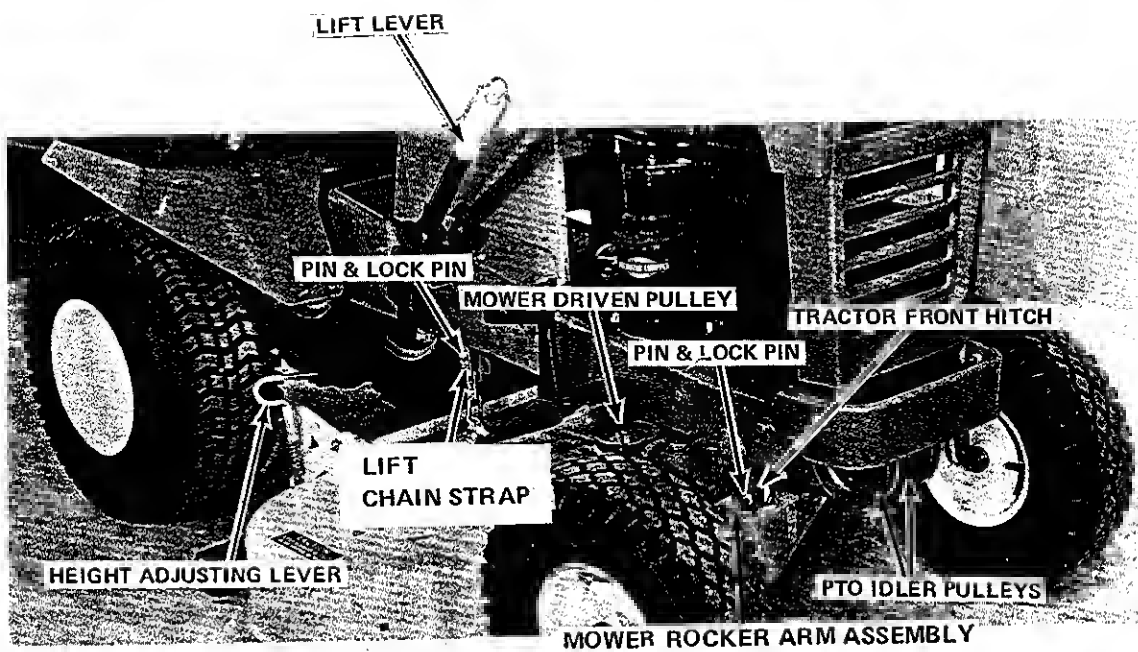
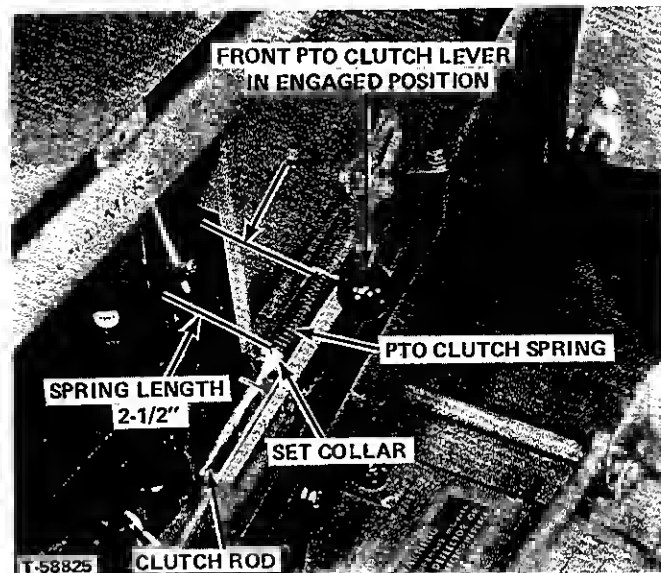
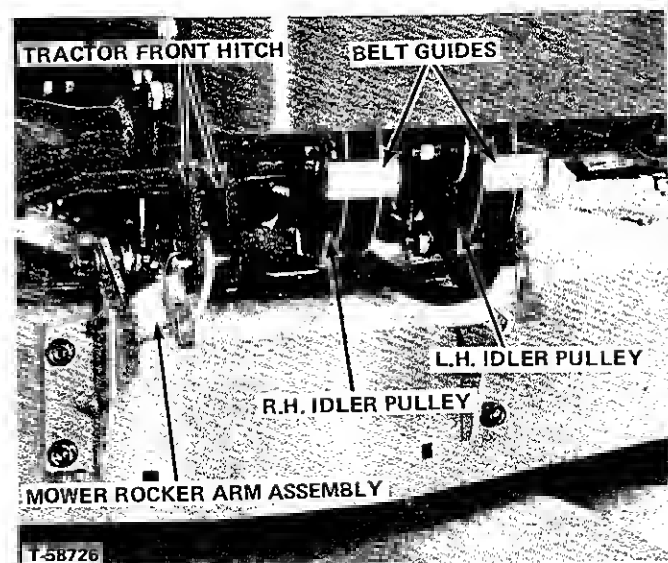
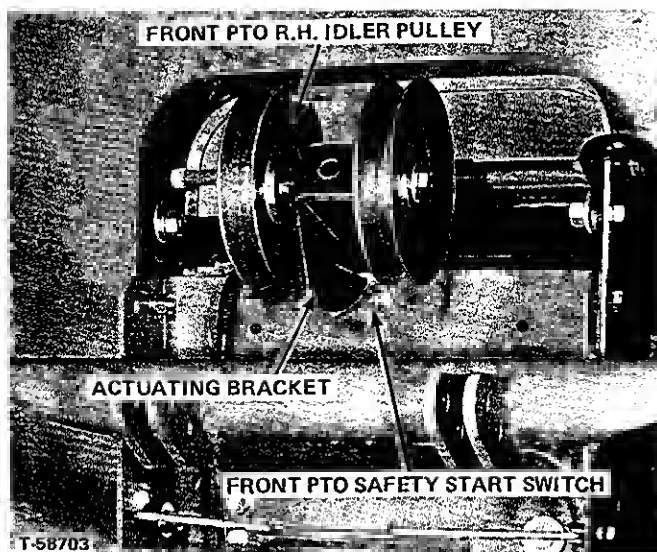

Figure 7.
Figure 9.
Figure 10
Figure 11.
2. See Figure 7. Move the lift lever forward and attach the lift chain strap to the inner lift arm with pin and lock pin.
3. Disengage the tractor front power take off lever, (Figure 10), by pulling it all the way to rear. Place the mower drive belt around the mower drive pulley on the engine (Figure 9), then over the PTO idler pulleys at the front end of tractor. Put the free end of mower drive belt back over the mower driven pulley, (Figure 7). If the idler pulleys have belt guides position them as shown in (Figure 11).
The bracket, (See Figure 11), should be readjusted as follows every time the idler bolt is loosened:
5. Adjust set collar on the PTO clutch rod to provide 2-1/2 inches of spring length when PTO drive belt is on and clutch lever is in the forward, fully engaged, position (Figure 9).
3. Lower the mower by pushing lift lever forward. Remove lock pin and pin from lift chain strap and lift arm (Figure 7). Store pin and lock pin in chain strap and leave with mower.
4. Disconnect the mower rocker arm assembly from the tractor front hitch and lower the mower to the ground. Store the pins and lock pins in the mower rocker arm assembly (Figure 10).